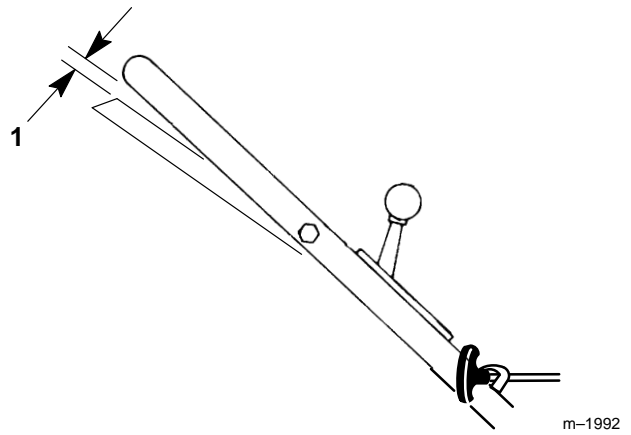

Figure 23
3. CHECK ADJUSTMENT—Slowly pull mower backward while control bar is gradually moved toward handle. Adjustment is correct when rear wheels stop turning and control bar is about 1 inch from handle (Fig. 23).